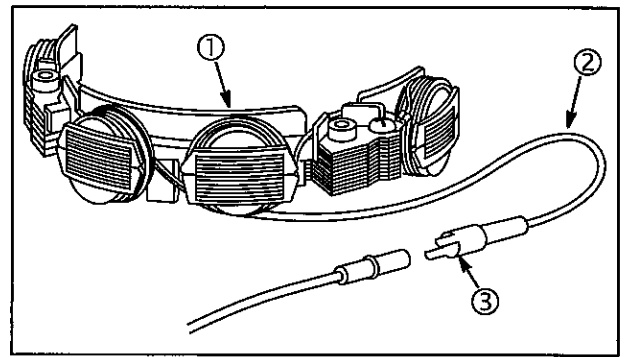

Fig. 10
1. Stator assembly (1), **Fig. 10**, is 5 amps or 14 volts AC for lighting circuit.
2. One BLACK lead from stator (2).
3. WHITE connector output lead (3).